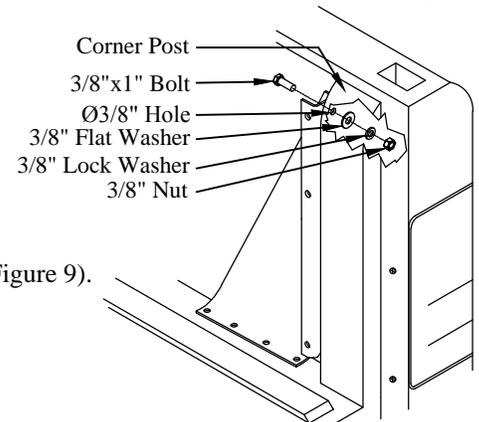

Figure 9: Additional support location.
1. Locate the existing 3/8" hole in the mounting bracket (Figure 9).
- (1) 3/8"x1" hex head bolt on the bracket-side (Figure 9).
- (1) 3/8" flat washer, (1) 3/8" lock washer, and (1) 3/8" nut on the truck-side (Figure 9).